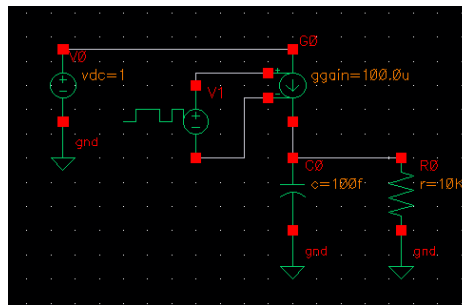

Fig.2 Direct RC design schematic with prbs source
- Now we want to simulate the random nature of the bit stream. Use a pseudo-random bit source from “analogLib” and cell “vprbs” to generate a random binary sequence and use a voltage-controlled current source (“analogLib”-> “vccs”) to mimic the photocurrent. Set the *One value* in “vprbs” as 1 and *Transconductance* of “vccs” as 100μ . You also need to set the Bit period in vprbs correctly (according to 2Gb/s). The schematic in cadence is shown in Fig.2. Note that the bits from the pseudo-random bit source may not appear “random” at first – this may not happen until ~30 cycles in. Run a transient simulation and show a section where the bits appear random (no obvious pattern). Look at the rise times here – do they match the rise time you calculated earlier?